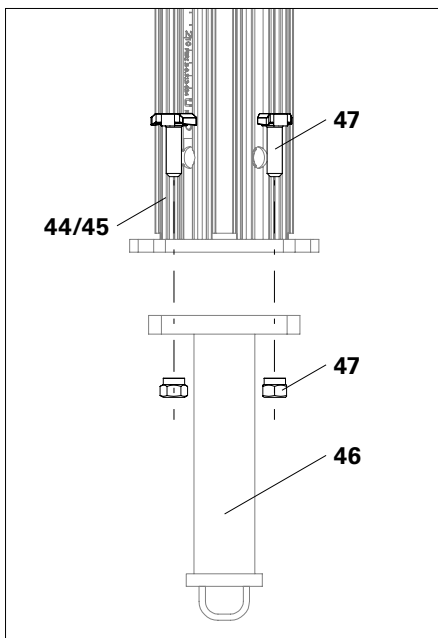
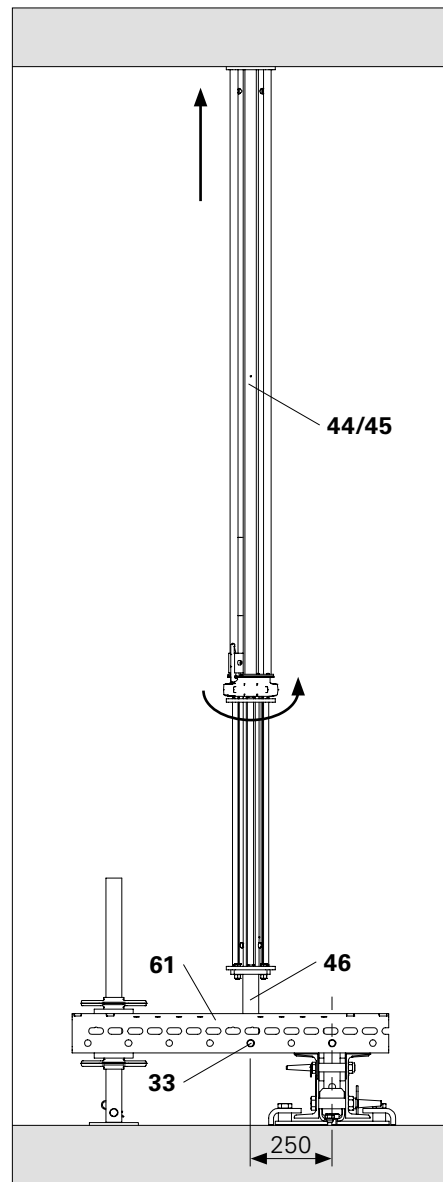

Fig. B1.05b
Fig. B1.05c
1. Fix the Compression Brace Head MP/ SRU (46) to the MULTIPROP MP (44/45) with 4x MULTIPROP bolts and nuts (47). (Fig. B1.05b)
2. Fix the Compression Brace Head MP/ SRU (46) to the Steel Waler SRU U120 (61) using 1x Fitting Pin  $\varnothing 21 \times 120$  (33) and secure with Cotter Pin 4/1 (34).
3. Spindle out the MULTIPROP MP (44/45) and press against the concrete slab. (Fig. B1.05c)